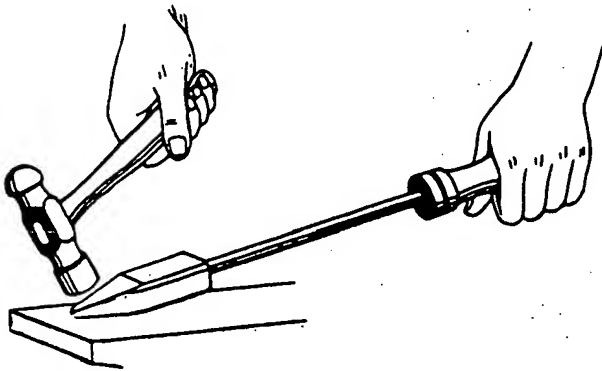

Figure 6-6.—Forging a soldering copper.
3. Hold the copper on an anvil and forge it to the required shape by striking it with a hammer. (See fig. 6-6.) As you reshape the copper, a hollow will appear at the point. Keep this hollow to a minimum by striking the end of the copper. Do not shape too long a taper or sharp point, because this causes the copper to cool too rapidly. Turn the copper often to produce the necessary squared-off sides and reheat the copper as often as necessary during this part of the forging.